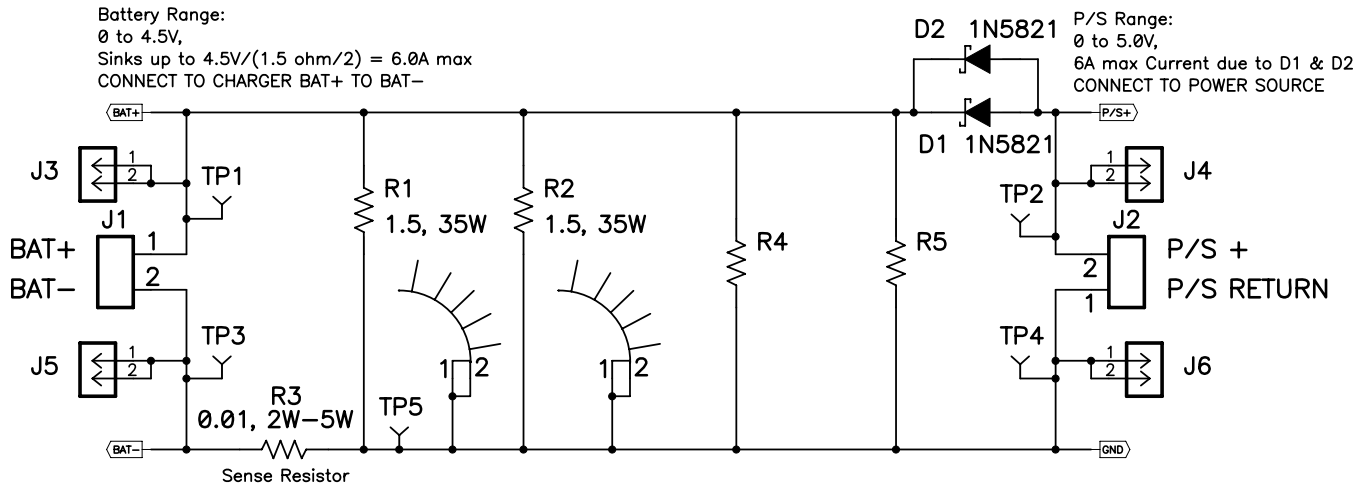

Figure 2. BAT Load (PR1010) Schematic
2. If battery as the load, then a second power supply (PS#2), capable of supplying up to 5 V at 5 A, as shown in Figure 2.
Testing with an actual battery is the best way to verify operation in the system. If a battery is unavailable, then sourcemeter like a Keithley 2420, capable of both sourcing and sinking current, or a circuit similar to the one shown in Figure 2 can simulate a battery when connected to PS#2.
4. If BAT_Load (PR1010), as shown in Figure 2, is used, connect PS2 set to approximately 3.6 V to the input side (PS2 \pm) of BAT_Load (PR1010), then turn off PS#2.